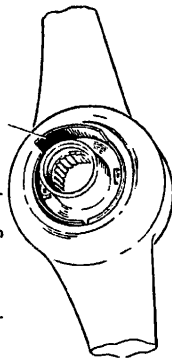

Fig. 38 Steering wheel with annular cam (view from below)
4. Insert annular cam for the automatic return switch in the recess of the steering wheel from below in such a way that the protruding flap points in the direction provided for the automatic return switch (See Fig. 38).